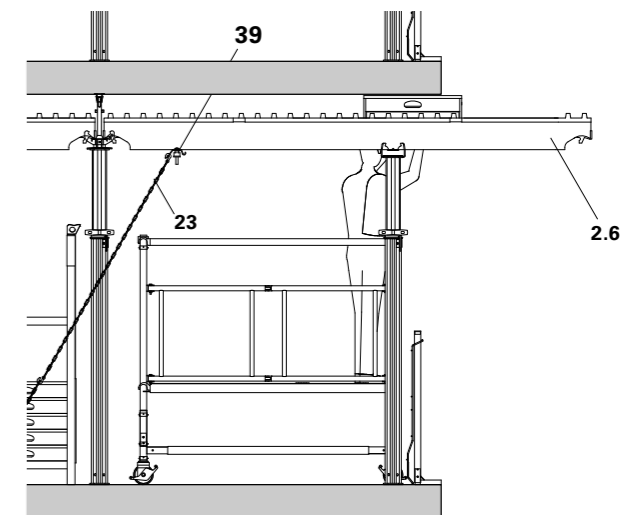

Fig. A9.26
1. Secure outer legs with universal tripod (N) or MRK Frames (Fig. A9.26)